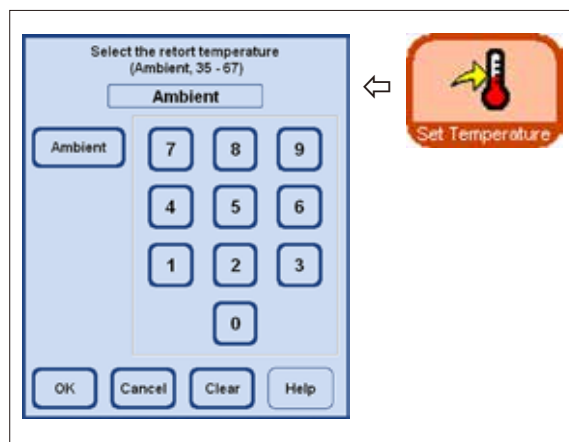

Fig. 132
- The retort temperature can be set on the Smart Screen. To do this, press the **SET TEMPERATURE** button and call up the **SELECT THE RETORT TEMPERATURE** entry window (Fig. 132).